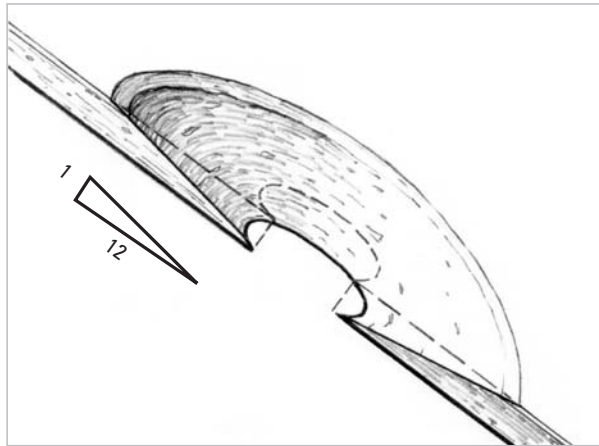

Figure 4-1 Grind a minimum 12-to-1 bevel around the edge of the excavated hole, whether the damage extends partially or completely through the skin.
2. Grind a bevel around the edge of the repair area to create a bonding area for the patch that will keep the patch flush with the skin's surface. A minimum 12-to-1 bevel is required to assure the transfer of loads across the repair area (*Figure 4-1*). For example, if you are left with a hole through a 1/4" (6mm)-thick laminate, the outer edge of the bevel will extend 3" (75mm) from the inside edge of the hole. If the skin is very thin, a longer bevel angle is required. Proceed with the laminating of the repair patch as described in Section 4.3 if: